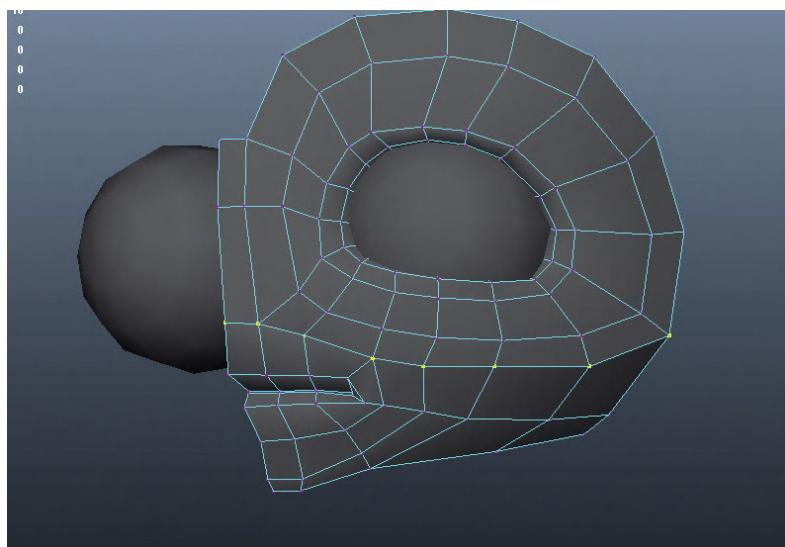

FIG 4.32 Marquee-selecting vertices along the seam.
Step 48: Merge the vertices that were along the seam. Marquee select each of the vertices shown in Fig. 4.32 (the vertices along the seam). Choose Polygons|Edit Mesh > Merge.